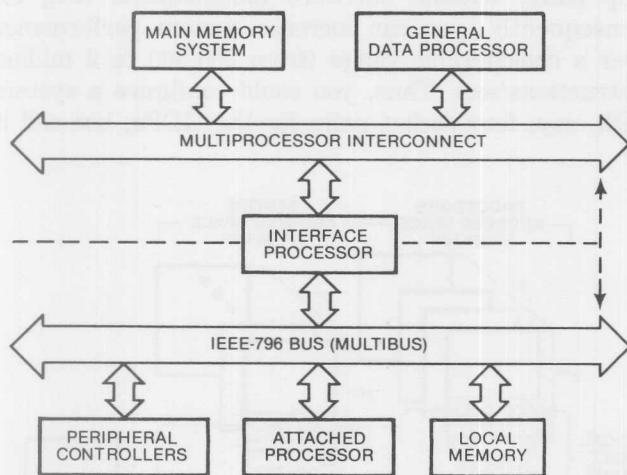

Fig 7—With the aid of the Multibus, a satellite subsystem (attached processor) can independently handle all I/O.
Turning now to the 432's I/O communication, we note that the 43203 interface processor (IP) permits a satellite subsystem to act as an attached processor (AP) that independently handles all I/O activity (Fig 7). Such an AP is an independent microprocessor, configured from Intel's line of midrange  $\mu$ Ps, peripheral controllers and Multibus-compatible devices.